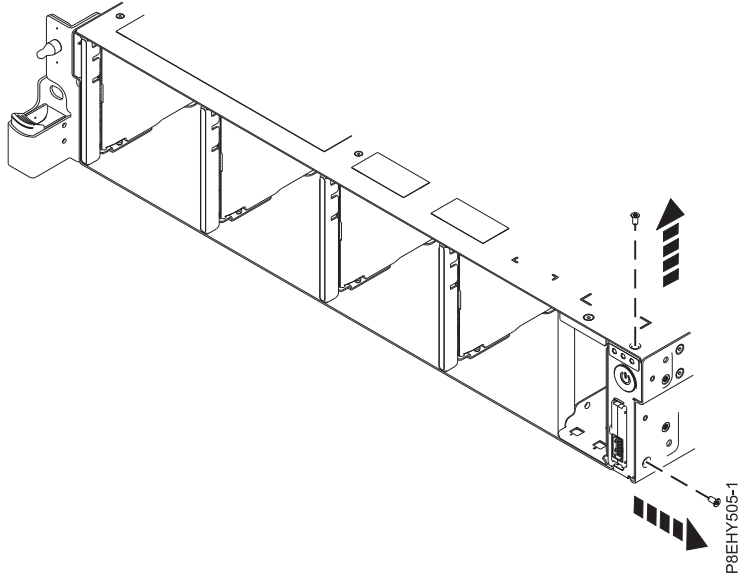

Figure 21. Remove the top and side screws
8. Remove the top and side screws from the power switch. See Figure 21 on page 27.